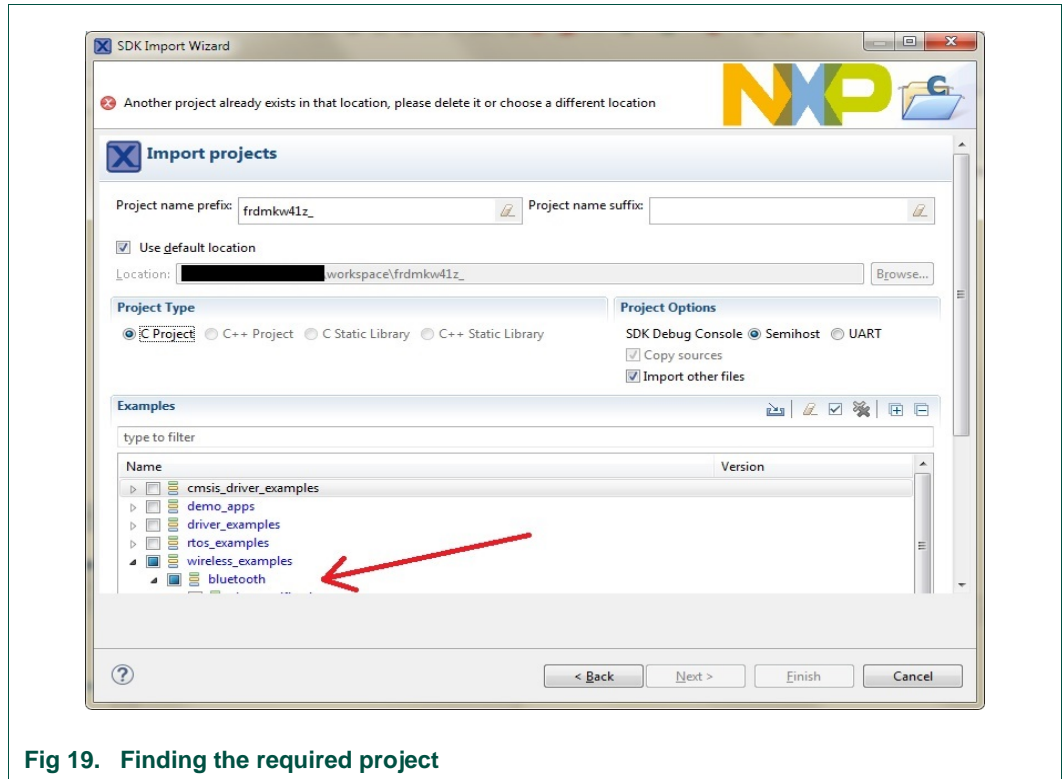

Fig 19. Finding the required project
- 2.) In the “Examples” window search the “wireless\_examples” and then “bluetooth” directory (see Fig 19).